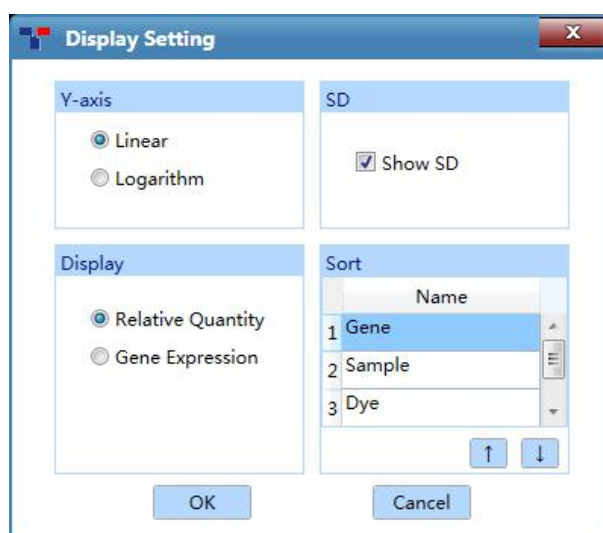

Figure D-11.2 Rel Quant interface - Display Setting window
-  **Display Setting** >: users can click  **Display Setting** > icon and the application software will automatically pop up the display setting window, as shown in figure D-11.2.